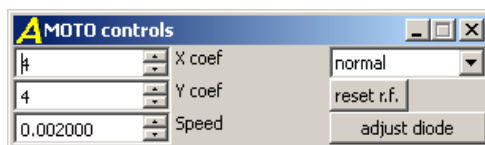

Figure 4.9.2 The MOTO controls panel to control the Moto Scan mode.
- Select the "Moto Scan" scan mode in the Scan window; the control panel will appear (see Figure 4.9.2).